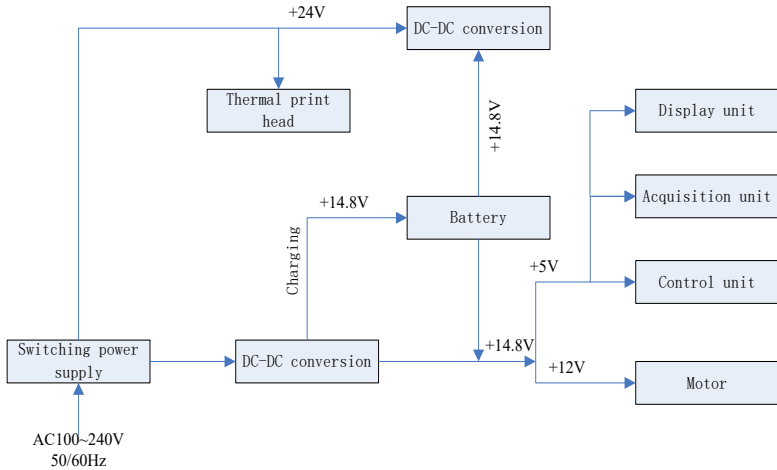

Figure 4-1 Block diagram of power principle
(2) Principle block diagram is shown in Figure4-1.